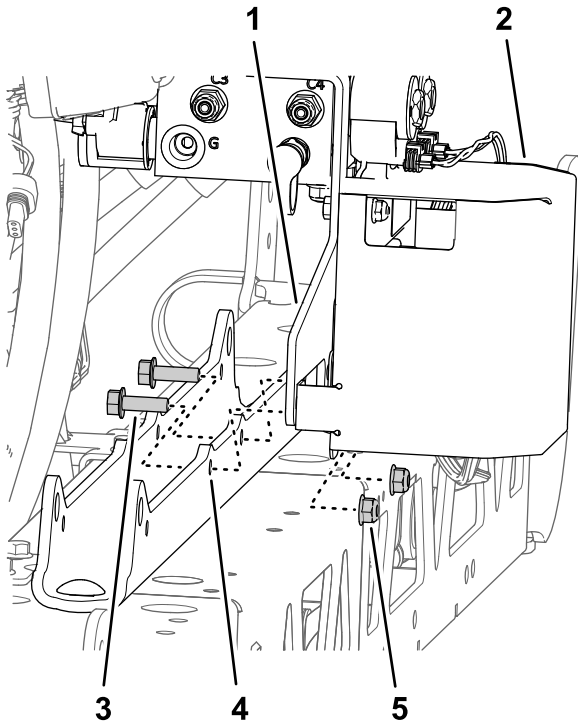

Figure 97
- B. Assemble the support bracket and TEC bracket to the cylinder mount (Figure 97) with the 2 flange-head bolt (5/16 x 1 inch) and flange locknut (5/16 inch) that you removed in step 1 of Removing the Section-Lift Manifold from the Center-Spray Section (page 24).